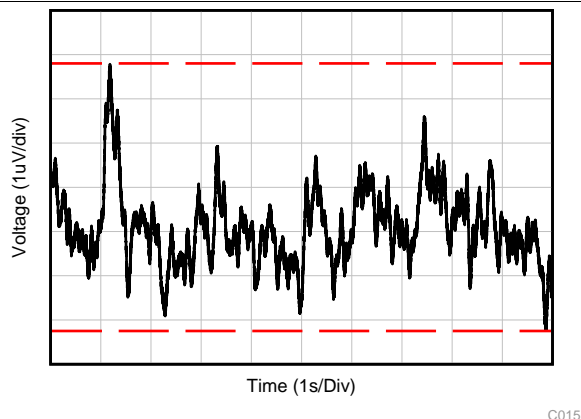

Figure 21. 0.1-Hz to 10-Hz Noise
0.1-Hz to 10-Hz Noise	Figure 21